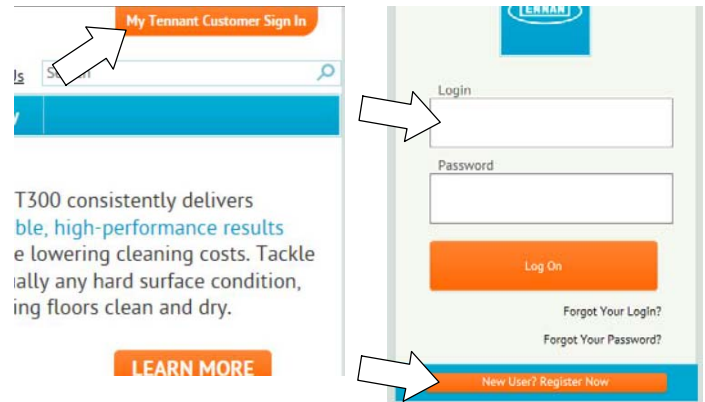

Fig. 28
- Log in to the “My Tennant” website or register as a new user (Figure 28).